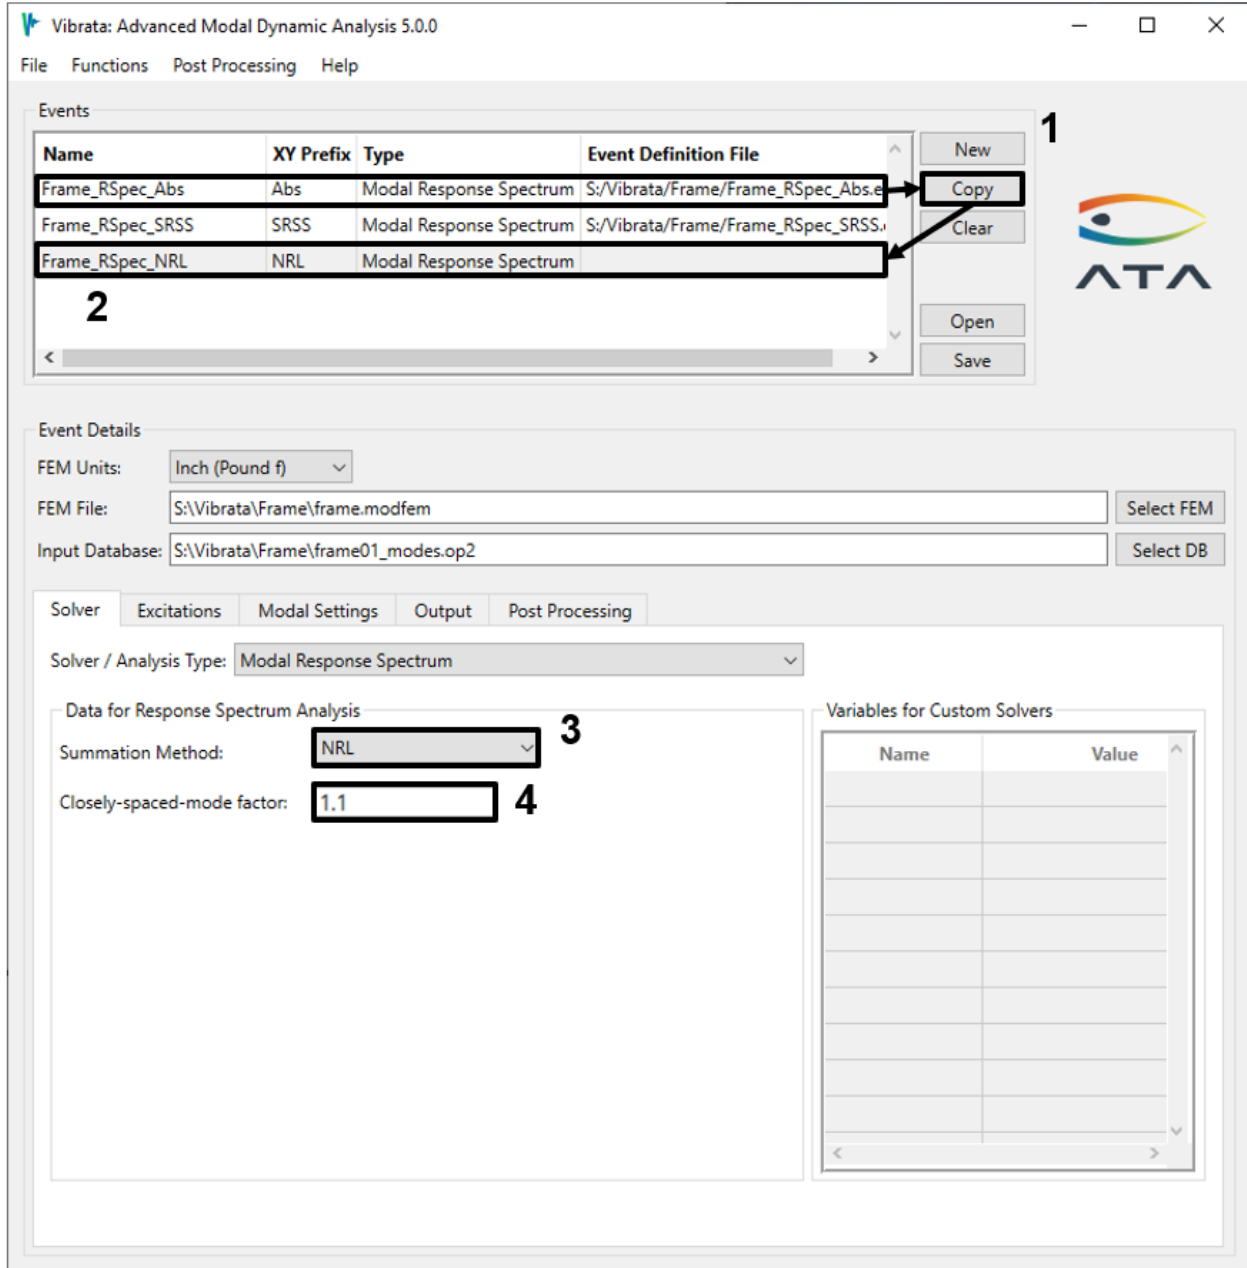

Figure 4-85. Copy again to create a third event using NRL summation.
- Copy the first event again. Change the summation method to *NRL* and set the Closely-spaced-mode factor to 1.1 (Figure 4-85). From Figure 4-82 you can see that the frequencies of modes 6 and 7 and modes 9 and 10 are within 10% of each other, so they will be considered closely spaced. Solve the event.